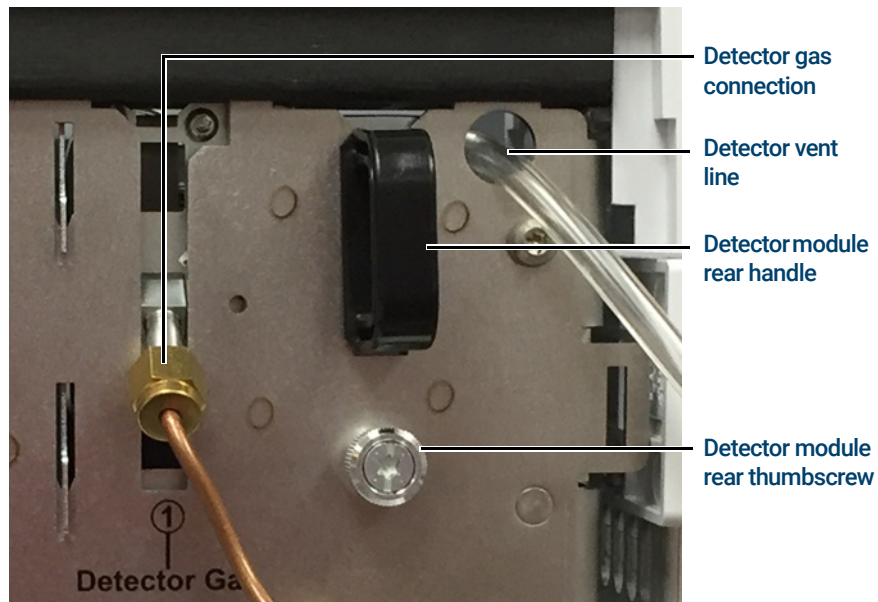

Figure 10. Detector EPC module gas connection, detector module vent line, rear handle and thumbscrew
- f** Turn off the detector gas at the source, and remove the gas line connection from the detector EPC module. See **Figure 10**.